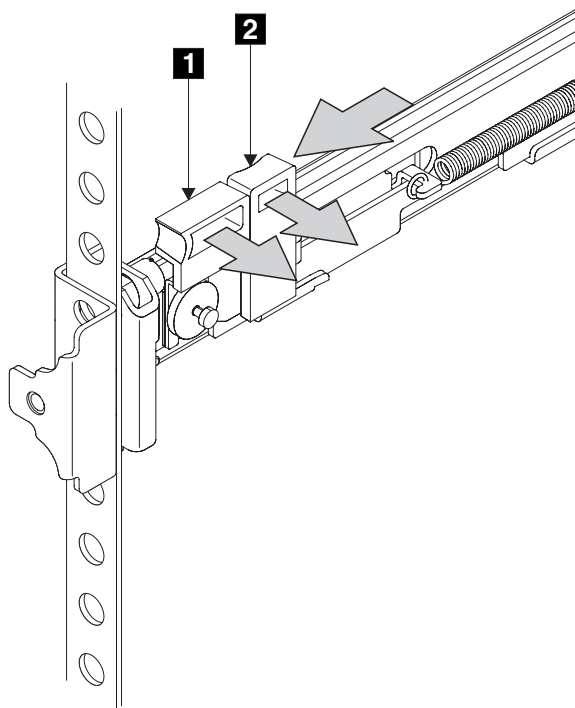

Figure 26. Closing the latch-lock carrier assembly
11. Push the latch lock **2** (Figure 26 on page 50) away from the rail to release the carrier. The latch-lock carrier slides toward the front of the rack, and the locating pins project through the holes that are in the front flange and in the front rail bracket.